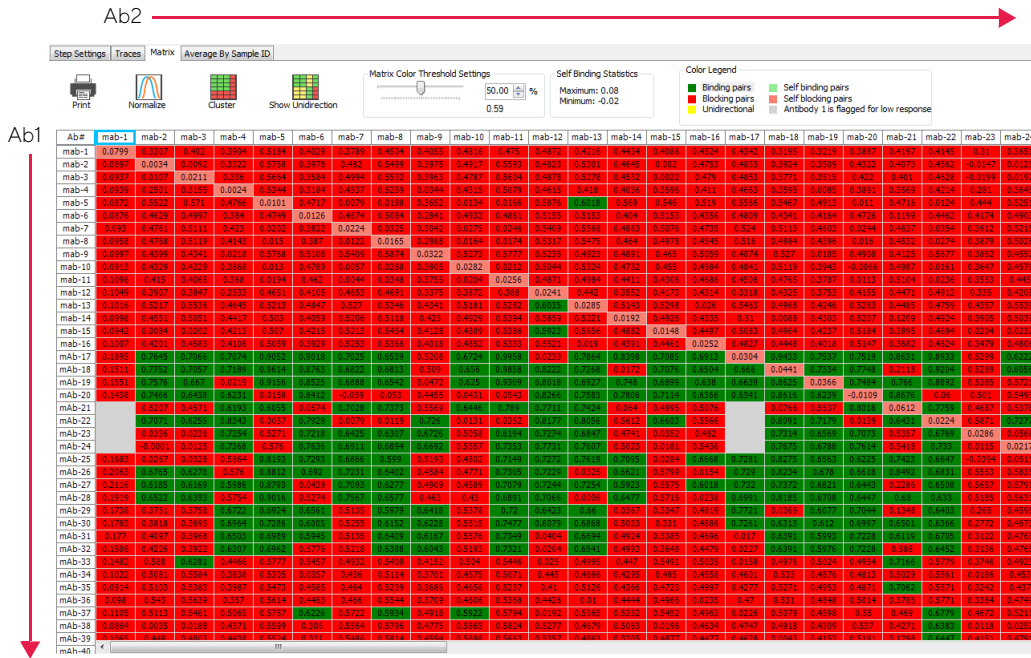

Figure 7-22: Matrix Tab
1. Click the **Matrix** tab. In the 2-D matrix, Antibody 1 is shown in the first column on the left, and Antibody 2 is shown across the top row (Figure 7-22).